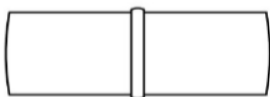

Figure 4.
- Barriers can be easily extended by connecting the individual tubes with connectors (Figure 4).